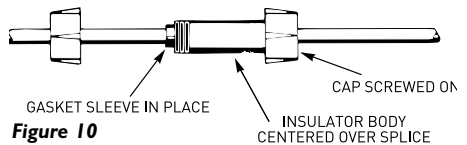

Figure 10
- G. Center insulator body over splice and slide neoprene sleeves into body as far as they will go. Screw caps onto insulator body (Figure 10) and tighten by hand for a strong, waterproof splice.